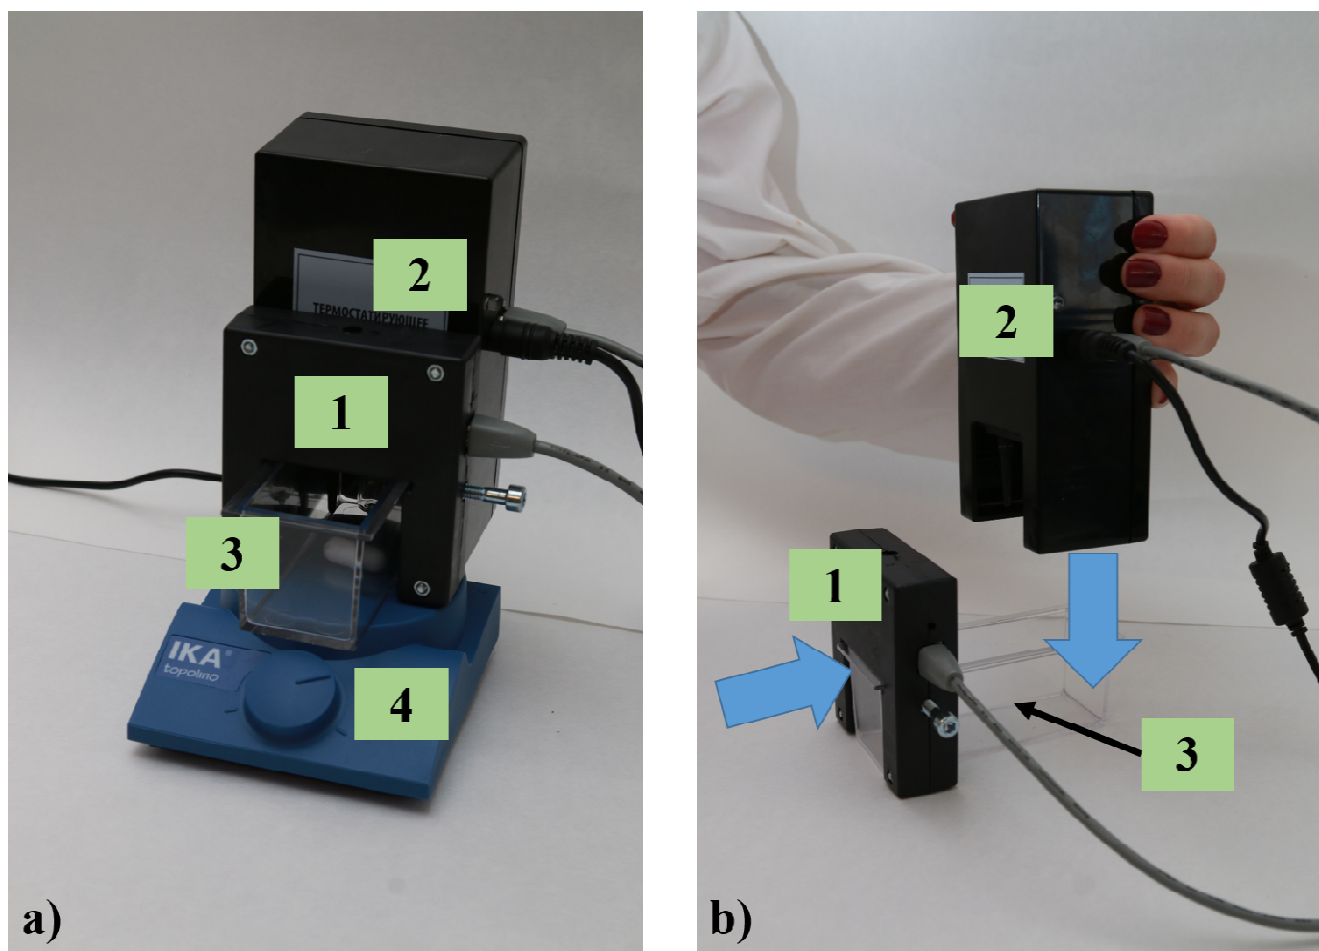

Fig. 5. Laboratory equipment
Assemble the laboratory equipment as shown in Fig. 5. Connect the photometer (1), 525 nm (fixed wavelength) and thermostat (2) to the Netbook via USB slots. Connect the thermostat to the cable labeled “Thermo” to the power supply at your work place via the power adapter. Put the optical cuvette (3) on top of the magnetic stirrer (4), pass the cuvette through the photometer from aside (not possible from top down) and place the thermostat over the cuvette from top down (Fig. 5b).